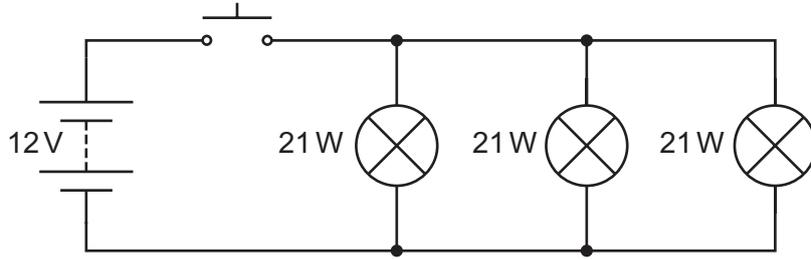

Fig. 11.3
- (b) Fig. 11.3 shows a circuit for the brake lights on a car. The brake light circuit uses 21 W filament lamps. The lights come on when the brake pedal is pressed, operating a PTM switch.